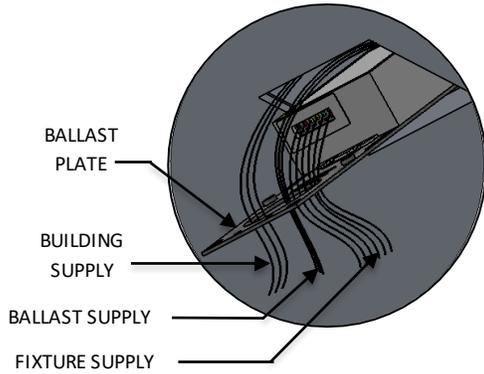

FIG. 21- DETAIL SHOWING BUILDING SUPPLY AND DRIVER WIRE
17. Slide DRIVER PLATE into the box with the DRIVER facing up. as you slide the plate in, make sure you pull the BUILDING SUPPLY connections through the large hole in the DRIVER PLATE as shown below in FIG.21 and other wires will already be through the center hole.